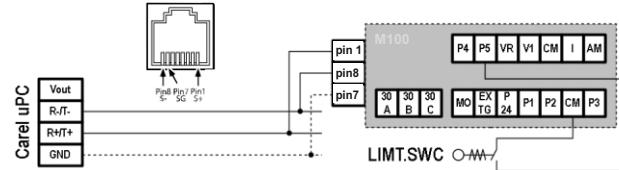

Figure 3
- Wire the communication terminal of the IC5 inverter according to the Figure 3